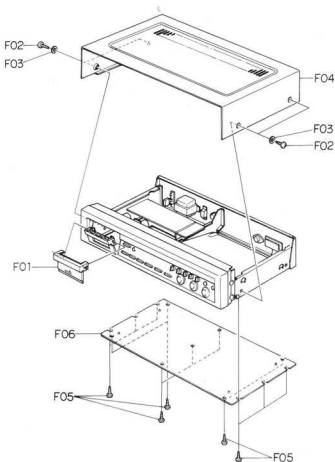

Fig. 3.1
Refer to Fig. 3.1.
- (1) Refer to Fig. 3.1. Remove Top Cover Ass'y and Bottom Cover Ass'y referring to items 3.2 and 3.3.
- (2) Remove F01 (VR Knobs) by pushing with a screwdriver or similar tools from the inside of the N-581.
- (3) Remove F02 (Switch Knobs) and F03, then disassemble F04 (Front Panel Ass'y including 2 connectors).
- (2) Remove F01, F02 and F03, then disassemble F04 (Rear Panel Ass'y).
- (2) Remove F05, F06 and F07, then disassemble F08 (Power Transformer).